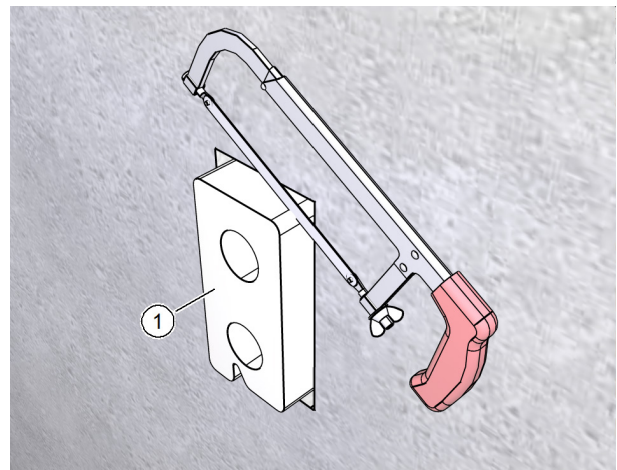
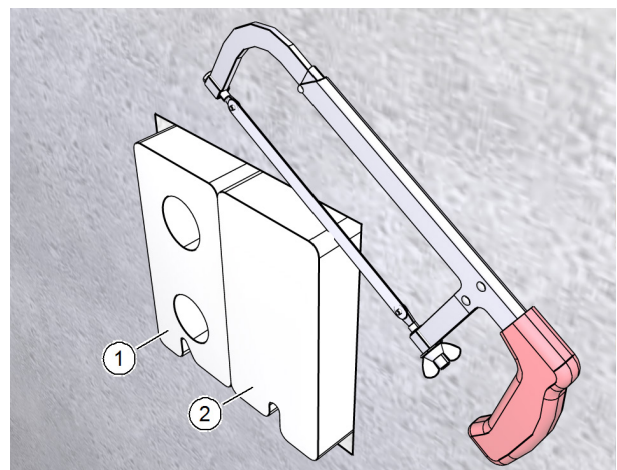

Fig. 21: Aligning the wall box **with-**out filler piece
Fig. 22: Aligning the wall box **with** filler piece
- ▶ Use a Styrofoam saw to cut off the excess wall box (item 1 in Fig. 21 and Fig. 22) and filler piece, if necessary (item 2 in Fig. 22), so that they are flush with the solid wall or any insulation.